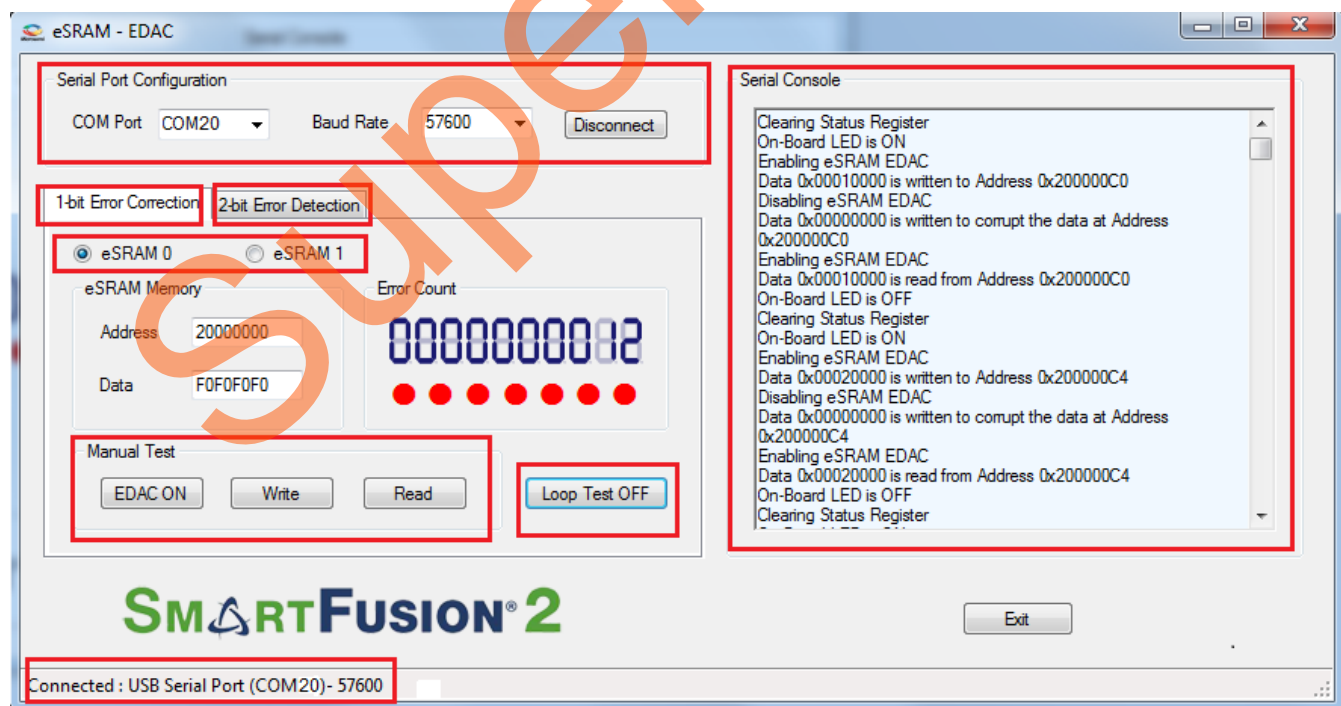

Figure 5. eSRAM – EDAC Demo GUI
4. Launch the **EDAC_eSRAM Demo** GUI executable file available in the design files (\GUI Executable\EDAC_eSRAM.exe). The GUI window is displayed, as shown in Figure 5.